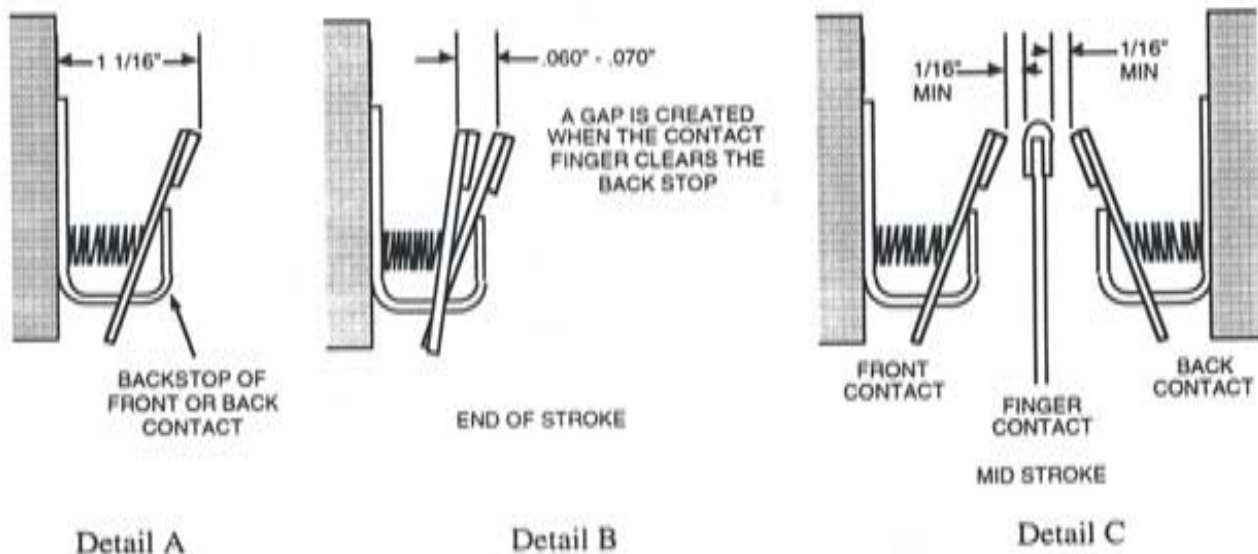

Figure 5-7. Contact Dimensional Adjustments
4. Align front and back contact to $1\text{-}1/16$ inch from face of silver contacts where they fit in recess of terminal board. See Figure 5-7, Detail A.